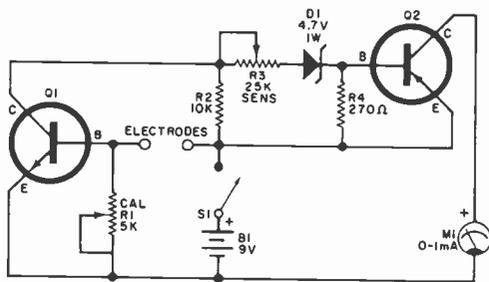

Fig. 1. Basic circuit of lie detector is a non-linear ohmmeter with the base bias of Q1 determined by the changing resistance of the subject's skin.
**Reader's Circuit.** Originally designed for use in a privately published project manual, the lie detector circuit illustrated in Fig. 1 was contributed by its developer, Marshall